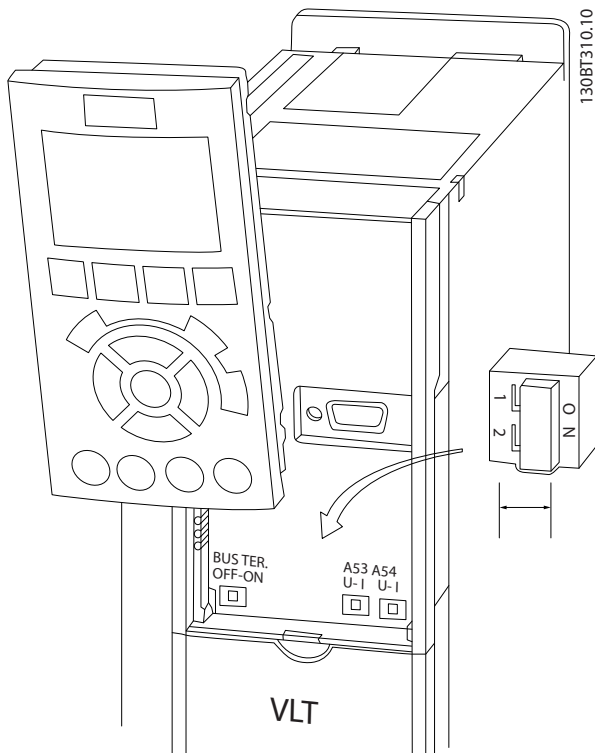

Figure 2.20 Location of Terminals 53 and 54 Switches
- The switches are accessible when the LCP has been removed (see *Figure 2.20*). Note that some option cards available for the unit may cover these switches and must be removed to change switch settings. Always remove power to the unit before removing option cards.